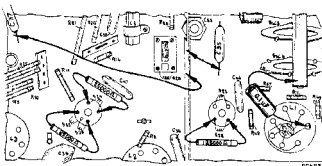

Fig. 3.
6. Render A.V.C. inoperative by short-circuiting C35 and C37 (see Fig. 3).
9. Shunt S24 with 25,000 ohms resistance (see Fig. 3).
13. Shunt S25-S35 with 25,000 ohms resistance (see Fig. 3).
16. Shunt S24 with 25,000 ohms resistance (see Fig. 3).
19. Shunt S22 with 25,000 ohms resistance (see Fig. 3).
25. Shunt S22 with 25,000 ohms resistance (see Fig. 3).
7. Earth grid of the triode part of L1 through an 0.1 μF condenser (Fig. 3), and tune on service oscillator to 550 K.C. (545 m.).
4. Earth the grid of the triode section of L1 through 0.1 μF condenser (see Fig. 3).